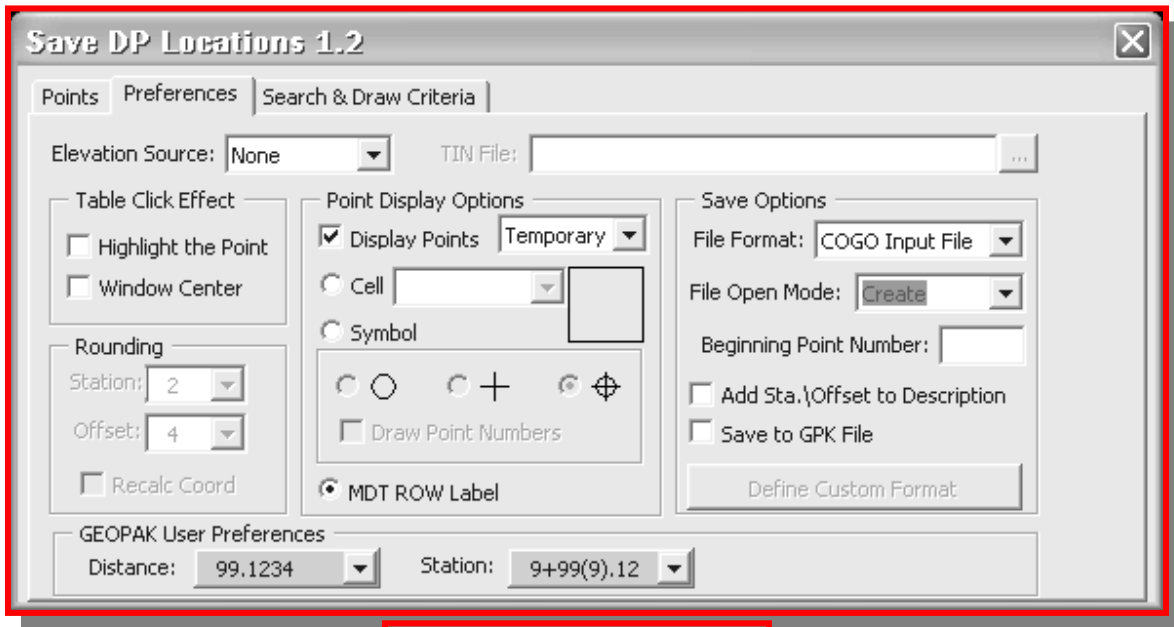

Figure 4
5. Within the Preferences tab set the Point Display Options. (See Figure 4)